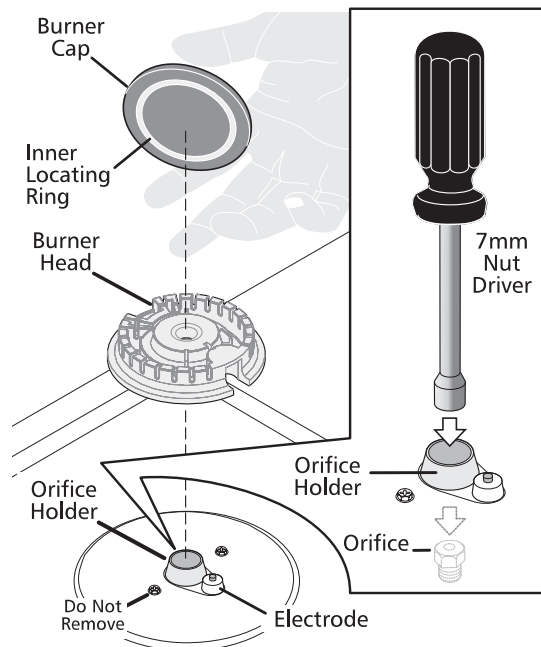

Figure 7
- Remove the four factory installed natural gas orifices from the center of the orifice holders using a 7 mm nutdriver (See Figure 7). Remember to keep the original Natural Gas Orifices for later conversion to Natural Gas. Refer to page 1 under "IMPORTANT" to identify their markings.